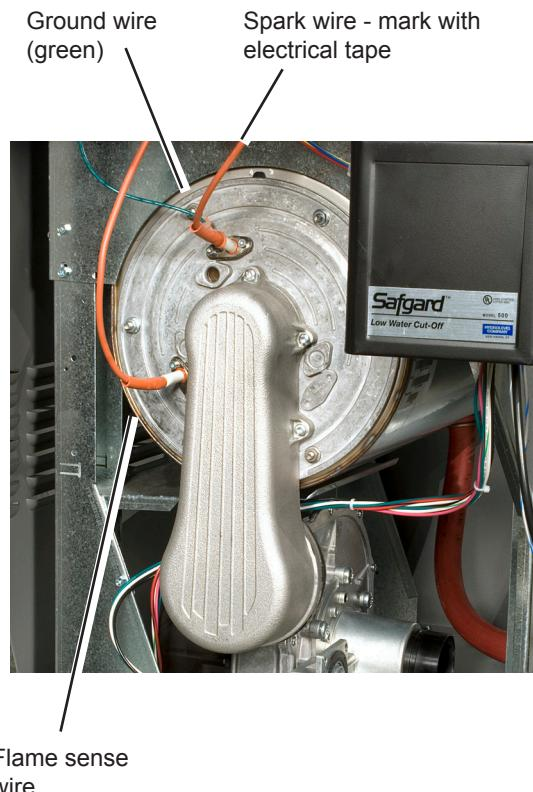

Fig. C5-6 - Disconnect the wires on the front plate of the heat exchanger
7. The next job is to separate the front plate on the heat exchanger from the rest of the unit. See Fig. C5-6. Note the two large wires running to this assembly. The spark wire and the flame sense wire look alike. ***The unit will not run if you reverse these wires.*** Before removing the wires, mark the spark wire with a piece of electrical tape. Also disconnect the green ground wire.